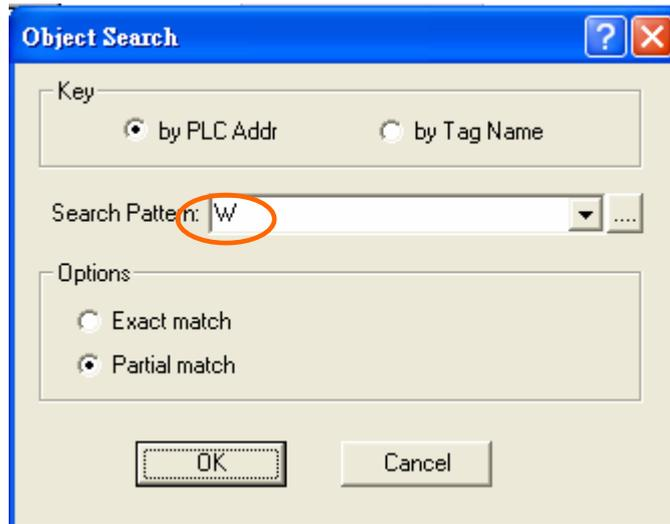
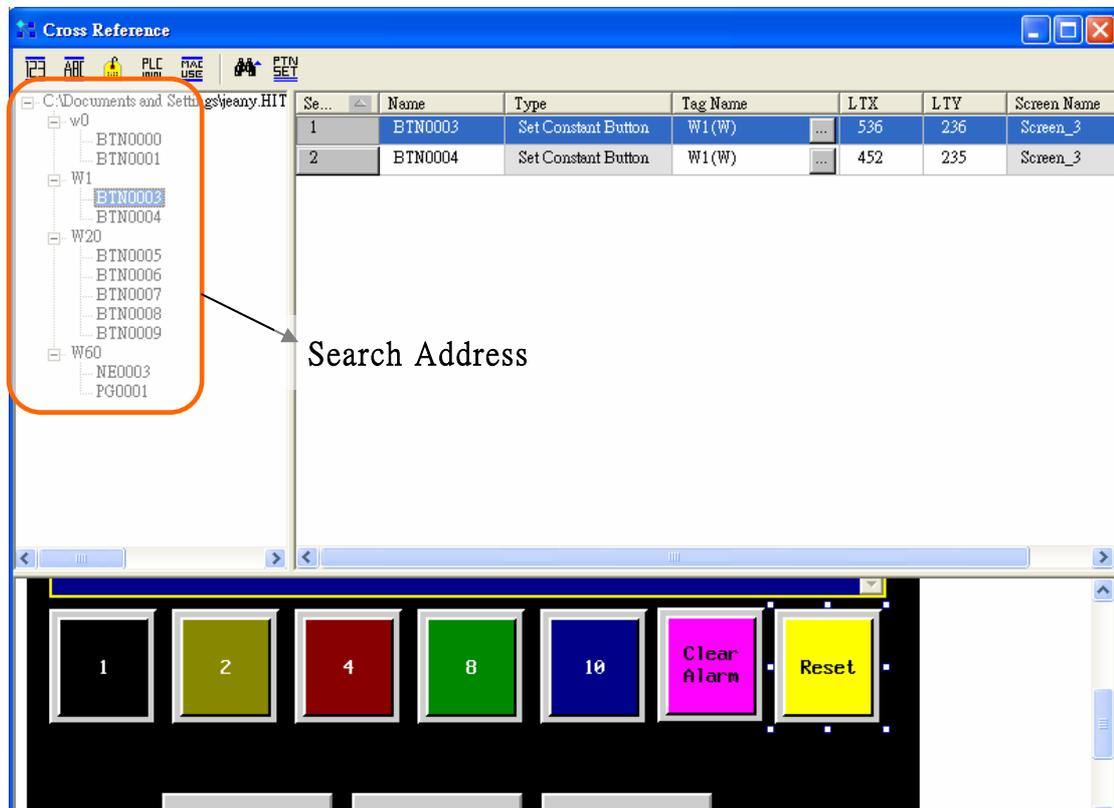

Figure 175. Specify the search pattern
Figure 176. Display the search address
- : Set the desired pattern for search. Select [by PLC Addr] or [by Tag Name], [Exact match] or [Partical match] options to search. See Figure 175. If the search pattern is “W”, and select [Partical match]. The cross refrence will display the objects which PLC addresss has “W”- “W0”, “W1”, “W20”, “W60”. See Figure 176.